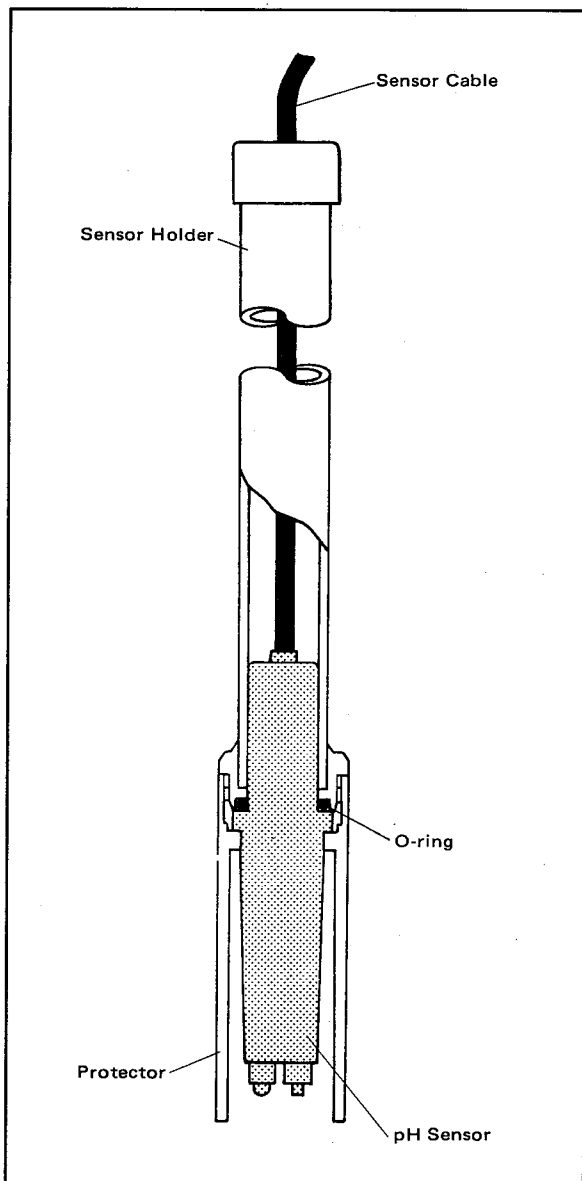

Figure 2-7. Sensor Installation (Submersion Type).
- (2) Connect the sensor cable to the associated equipment. Correctly connect as per Section 2-3.
- (3) Screw the protector on the sensor holder to fix the sensor in the holder. Remove the protective cap on the pH sensor tip. Screw the protector securely on the sensor holder so that the flange of the sensor body compresses the O-ring firmly (see Figure 2-7).